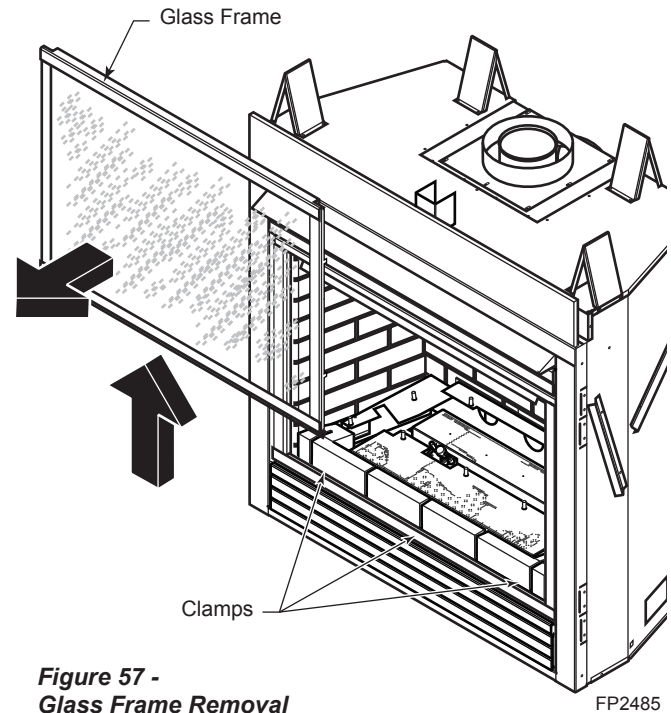

Figure 57 - Glass Frame Removal
2. Release three (3) clamps on bottom of fireplace. *Figure 57*